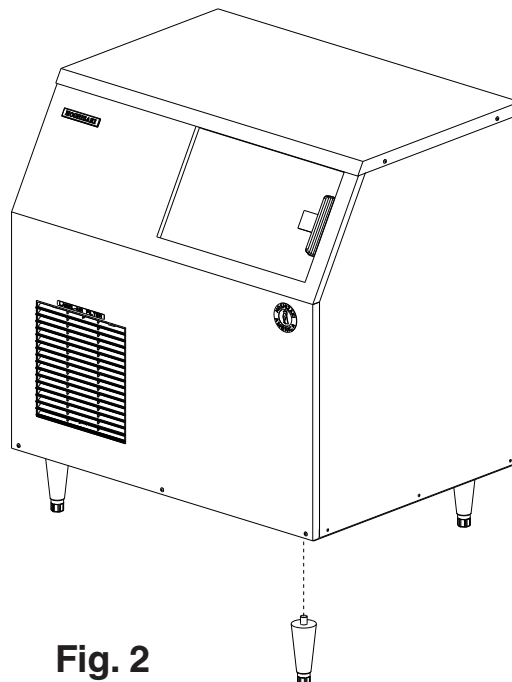

Fig. 2
- 1) See Fig. 2. Attach four 6" adjustable legs provided to the bottom of the appliance.